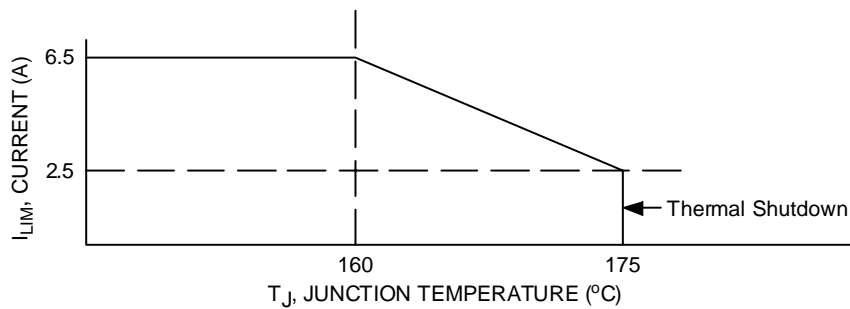
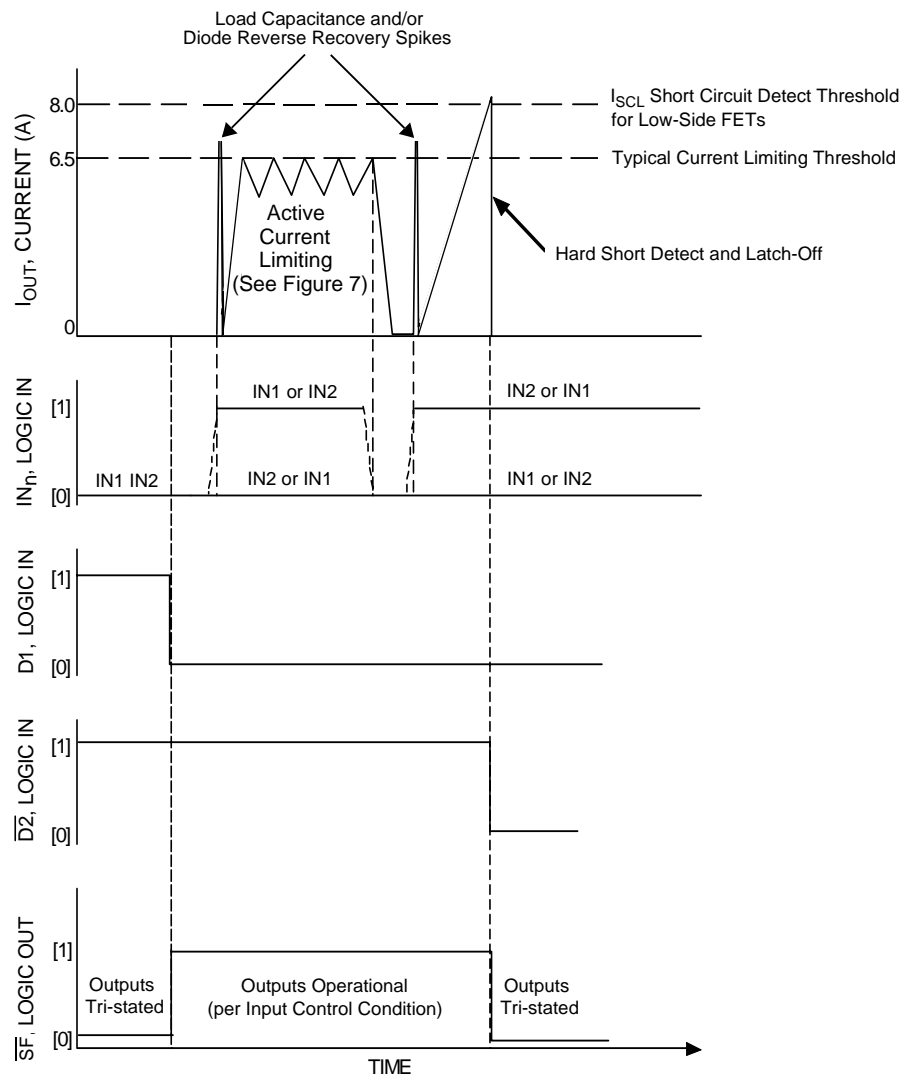

Figure 7. Active Current Limiting Versus Temperature (Typical)
Figure 8. Active Current Limiting Versus Time
- Increasing currents will become limited at I_{LIM}. Hard shorts will breach the I_{SCH} or I_{SCL} limit, forcing the output into an immediate tri-state latch-OFF. See Figures 8 and 9, page 9. Active current limiting will cause junction temperatures to rise. A junction temperature above 160°C will cause the active current limiting to progressively “fold-back” (or decrease) to 2.5 A typical at 175°C where thermal latch-OFF will occur. See Figure 7, page 8.
The current limiting threshold value is dependent upon the device junction temperature. When $-40^\circ\text{C} < T_J < 160^\circ\text{C}$, I_{LIM} is between 5.2 A and 7.8 A. When T_J exceeds 160°C , the I_{LIM} current decreases linearly down to 2.5 A typical at 175°C . Above 175°C the device overtemperature circuit detects T_{LIM} and overtemperature shutdown occurs (see Figure 7, page 8). This feature allows the device to remain operational for a longer time but at a regressing output performance level at junction temperatures above 160°C .